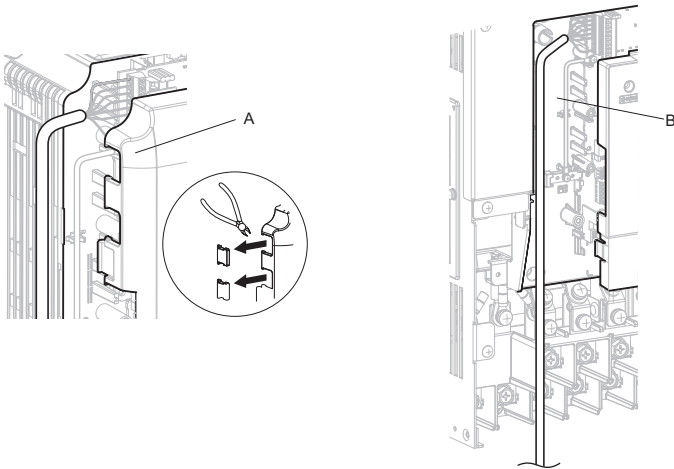

Figure 8 Wire Routing Examples
6. Route the option wiring inside the enclosure as shown in **Figure 8-B**. Take proper precautions so that the front covers will easily fit back onto the drive. Users may also choose to route the option wiring through openings on the front cover of some models. Remove the perforated tabs on the left side of the front cover as shown in **Figure 8-A** to create the necessary openings on these models. Refer to the Peripheral Devices & Options section of the drive instruction manual for more information.